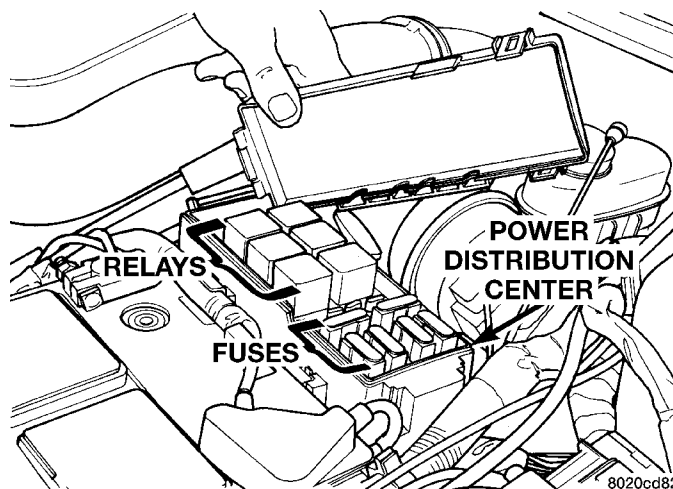

Fig. 55 Power Distribution Center
(3) Open the Power Distribution Center (PDC). Check for blown fuses. Ensure the relays and fuses are fully seated in the PDC (Fig. 55). A label on the underside of the PDC cover shows the locations of each relay and fuse.